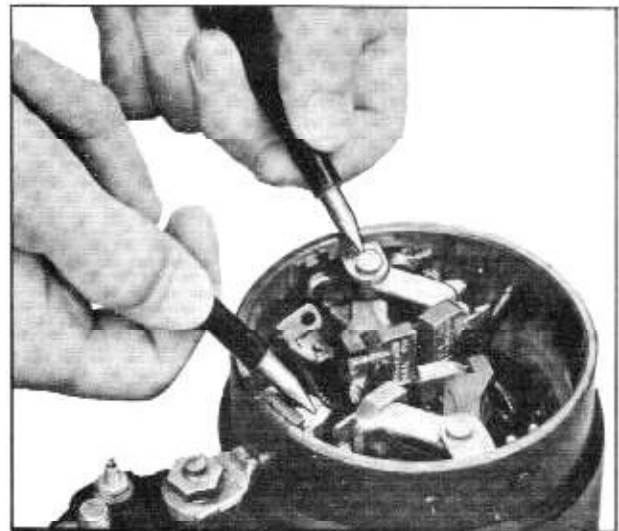

Fig. 13-48 Checking Field Coil for Ground
- e. Using a 110-volt test lamp, place one lead on the connector bar and the other on the field frame. (Fig. 13-48) Disconnect all shunt coil grounds before this check is made. If the lamp lights, the field coils are grounded and the defective coils will require repair or replacement.